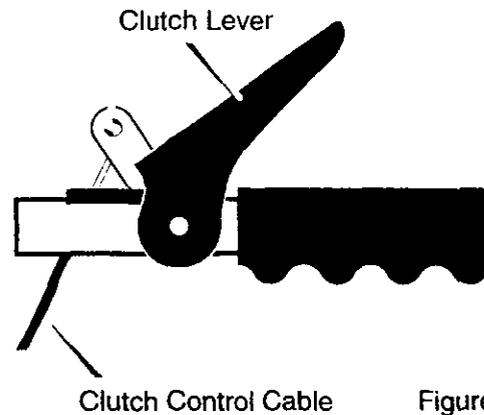

Figure 4
- Make sure the **clutch control cables** are attached to the **clutch levers**. See Figure 4.